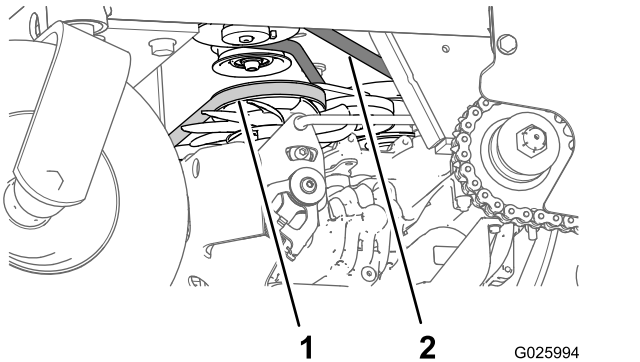

Figure 48
3. Check the auxiliary pump-drive belt condition and tension (Figure 48).
4. Check condition of the transmission-drive belt (Figure 48).